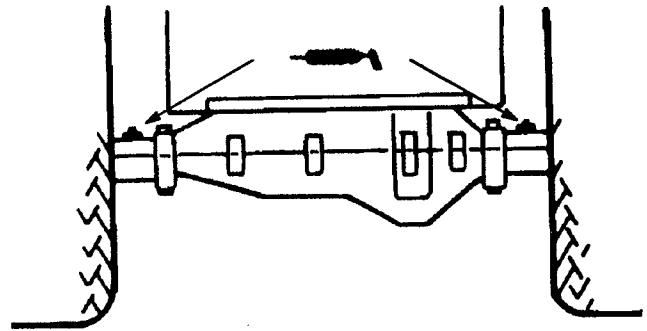

Figure 13
2. Lubricate the rear axle with 3–4 pumps of grease (Fig. 13).